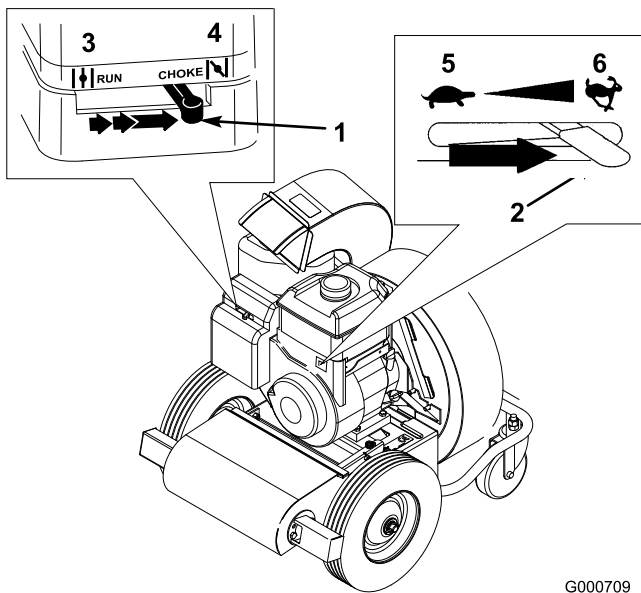

Figure 16
1. Move the choke lever (located on the left side of the engine) to the Choke position (Figure 16).
2. Move the throttle lever (located on the right side of the engine) to the Fast position (Figure 16).
4. As the engine warms up, slowly move the choke lever to the Off position (Figure 16).
Move the throttle lever all the way to the left in the Slow position (Figure 16).